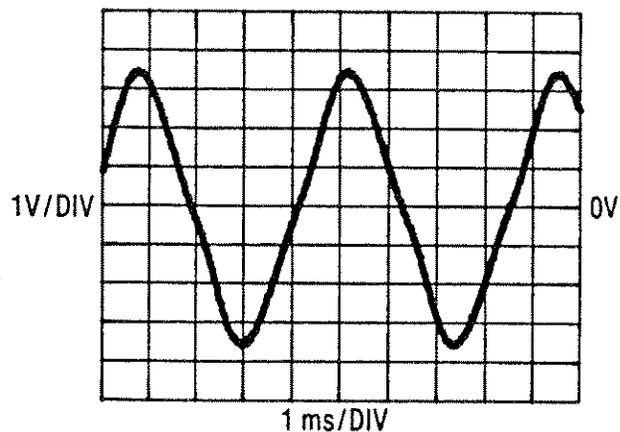

Figure 8-43. AC Gain Stage Waveform
3. Compare the waveform at A5TP15 with Figure 8-43. If the waveform is incorrect, perform the Range Attenuator ( $\div 1$ ,  $\div 10$ ,  $\div 100$ ) and AC Gain Stage Tests. If the waveform is normal, continue with step 4.